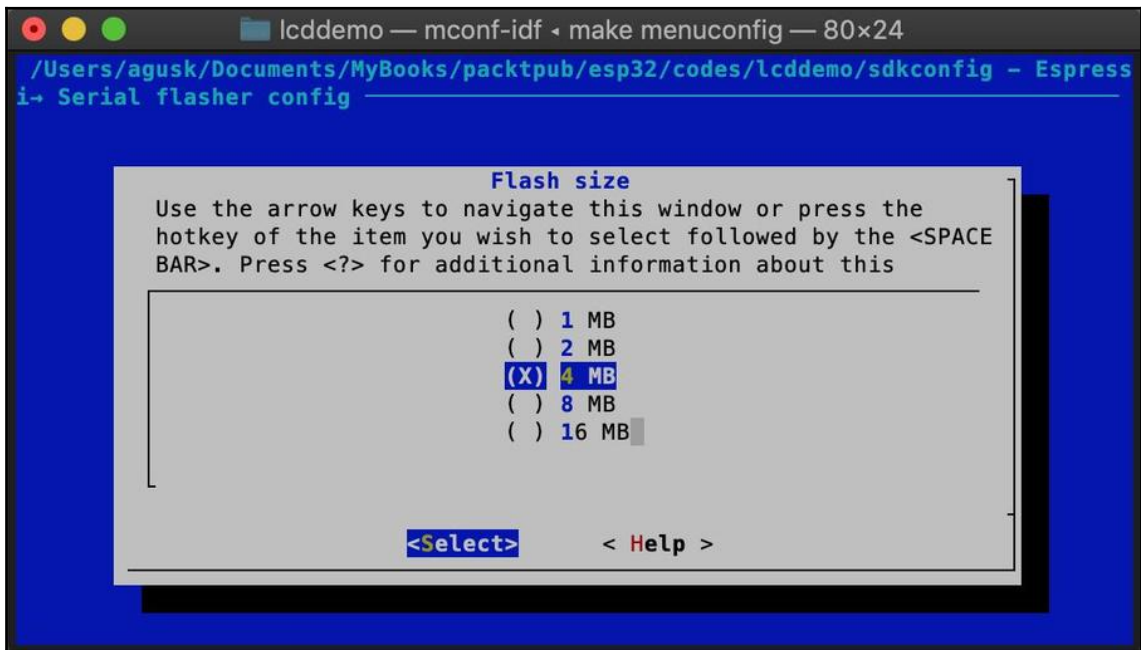

Figure 2-12: Selecting 4MB for flash size
11. After this is selected, you will see a list of flash sizes, as shown in Figure 2-12: